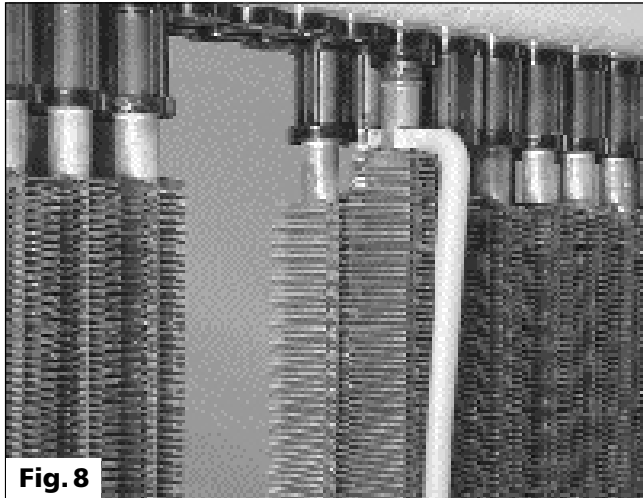

Fig. 8
STEP 4. Fully seat the tube into the bottom seal, engaging the ITS™ when present. Tool P/N 105535 can be used at this point to help pull the tube into the bottom plate. Tool is positioned at top of tube as shown in **Fig. 8**.